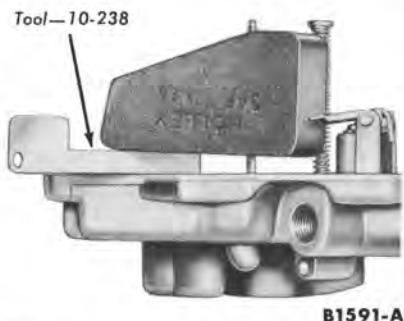

FIG. 29—Float Setting—Bench Check Only
7. Check the float setting using a $\frac{5}{16}$ -inch drill or gauge (tool-10-238) (Fig. 29). If necessary, bend the tab on the float arm to bring the float setting within limits which should provide the proper fuel level. **Do not apply pressure on the fuel inlet needle.**